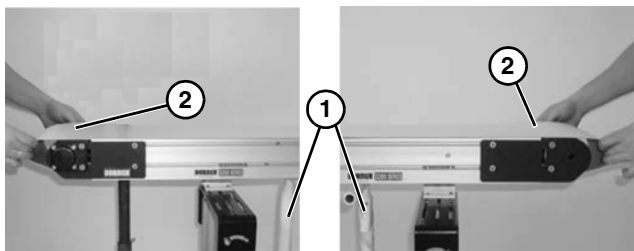

Figure 31
1. Ensure temporary support stands (**Figure 31, item 1**) are placed at both ends of the conveyor.
3. Install belt (**Figure 31, item 2**) on conveyor. Lift conveyor slightly to avoid pinching belt on temporary support stands.